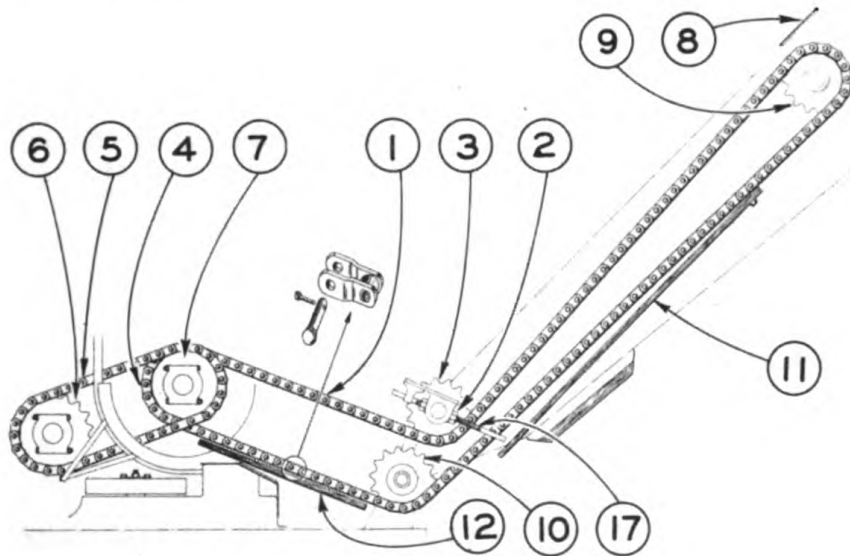

Figure 168
CROWD CHAIN (See Figure 168, Page 201).
After adjusting sprocket (3) has been taken up all the way and crowd chain runs with considerable slack, it is necessary to shorten chain by removing a link. Unscrew nuts (2) to extreme out position on bolts (17) and remove slack in upper part of chain by revolving sprocket (4) with racking-in clutch. Select a link, (see inset Figure 168,) about 18" from sprocket (10) and remove link as described under "To remove chain link", Page (198). To connect chain, follow procedure described under "To replace chain", Page (198). To adjust chain, see Page (102), Operation Section.
RACK-IN CHAIN (See Figure 168).